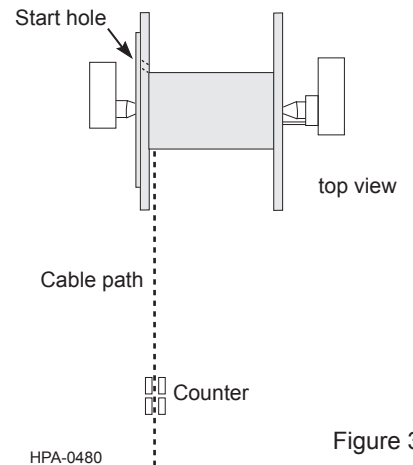

Figure 3
4.6 Move the respooler reel flange with the feed hole so that it is aligned with the point where the cable exits the counter (Figure 3).